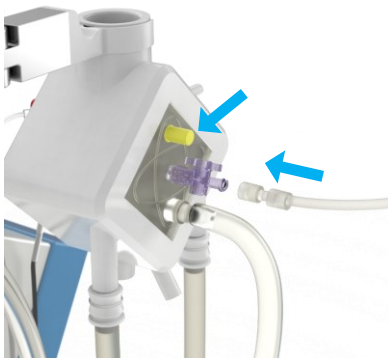

Figure 15 Connection of filling line
- To fill the circuit; connect the separately packed filling line to the oxygenator, see figure 15. Take care to connect it tightly and maintain sterility.
- Remove the yellow de-airing cap on the oxygenator, see Figure 15. Do not discard the yellow cap, store carefully.